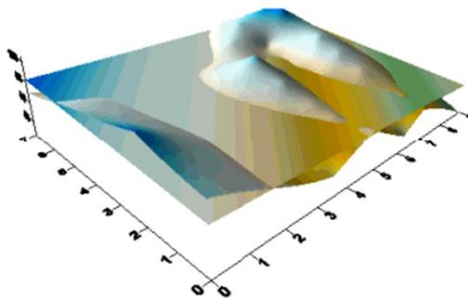

Figure 1.148 – You can overlay two or more surfaces. Depending on each surface's XYZ ranges, the surfaces may overlap or intersect each other
2. Click **Map | Overlay Maps** to overlay the surfaces, fig. 1.148.